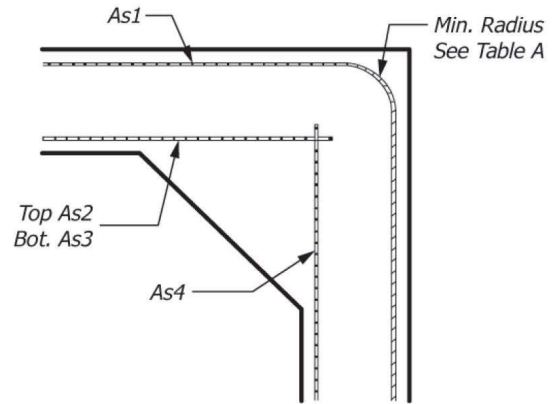
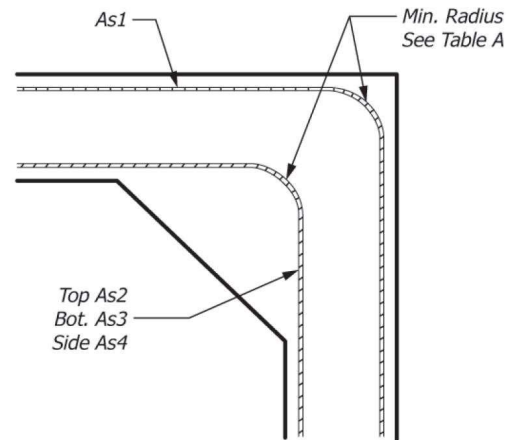

FIG. 3 Detail Inner Reinforcement
FIG. 4 Detail Option (see Fig. 3)
- With the **largest area** requirement governing, bending the reinforcement at the corners and waiving the extension requirements of Fig. 3 (see Fig. 4)